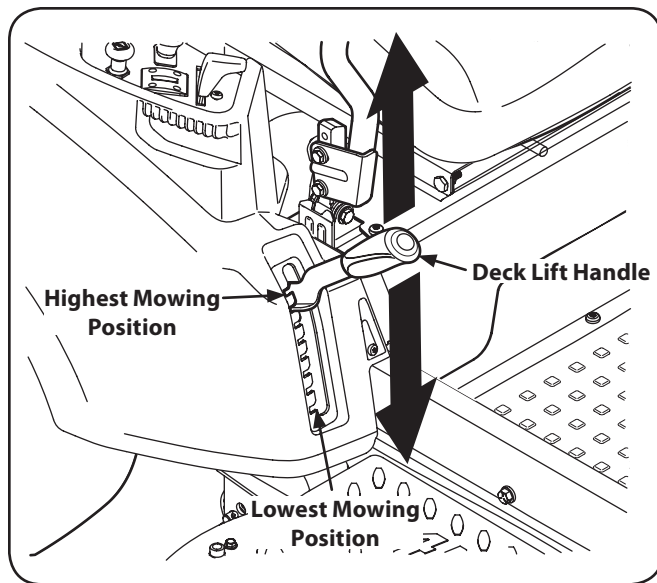

Figure 7-3
1. Using the deck lift handle, raise the deck to the position that provides the most horizontal run of the belt between the deck idler pulleys and the PTO pulley on the bottom of the engine. See Figure 7-3.
5. Lower the deck into the lowest position using the deck lift handle. See Figure 7-3.
1. Place the deck lift handle in the highest mowing position See Figure 7-3.